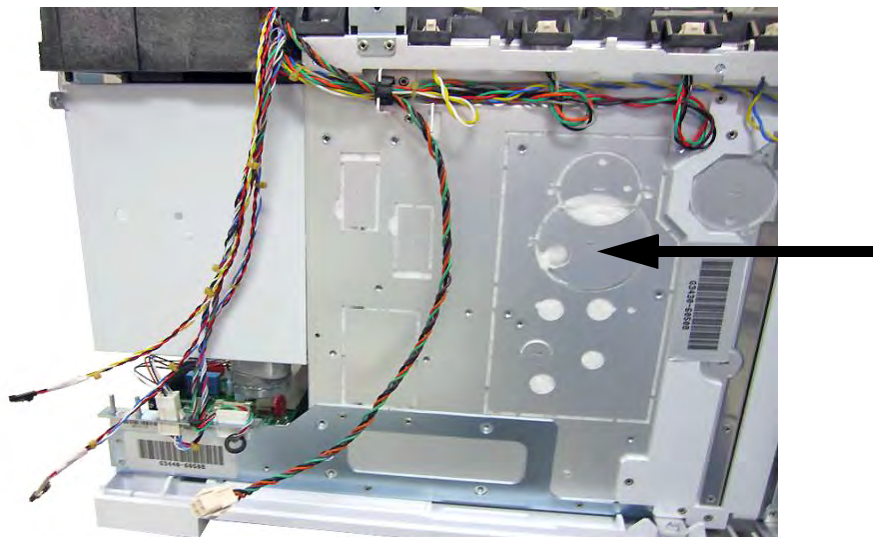

Figure 11 Remove sheetmetal knockout
- 1 Use a flat-head screwdriver to remove the sheet metal knockout on the left side of the GC. See Figure 11.